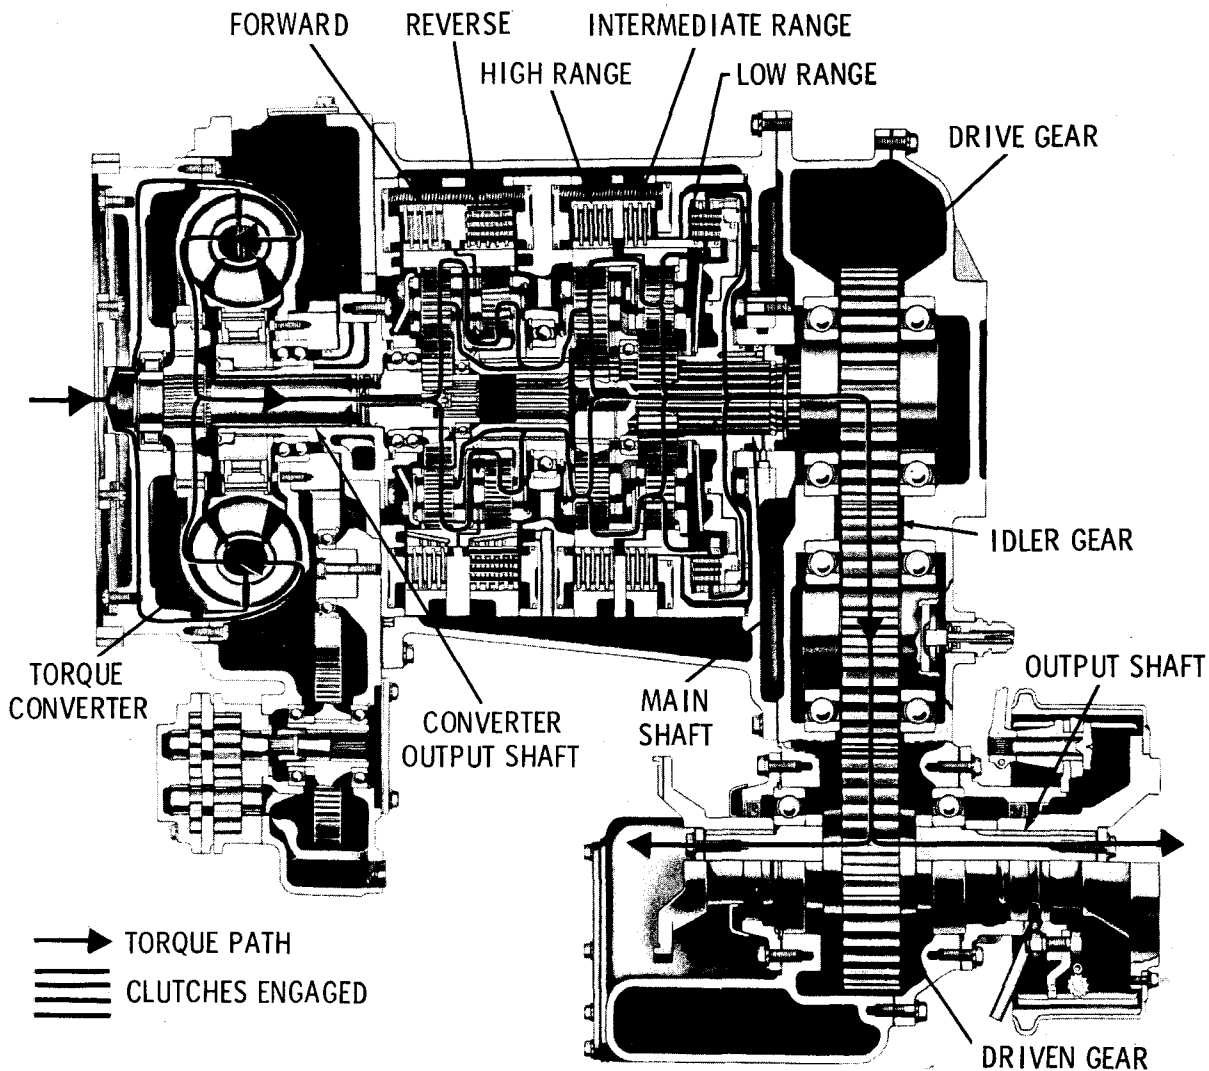

Fig. 2-5. Reverse, low range—torque path
f. Reverse, Low Range (fig. 2-5)
(1) The reverse and low-range clutches are engaged. The reverse clutch holds the reverse planetary ring gear stationary. The forward and reverse planetary gear sets operate as a compound arrangement wherein reversing actually occurs in the forward gear set, and further speed reduction occurs in the reverse gear set. The compounded gear sets have a speed reduction ratio of 3.17 to 1.
(2) The output member of the compounded gear sets is the reverse planetary